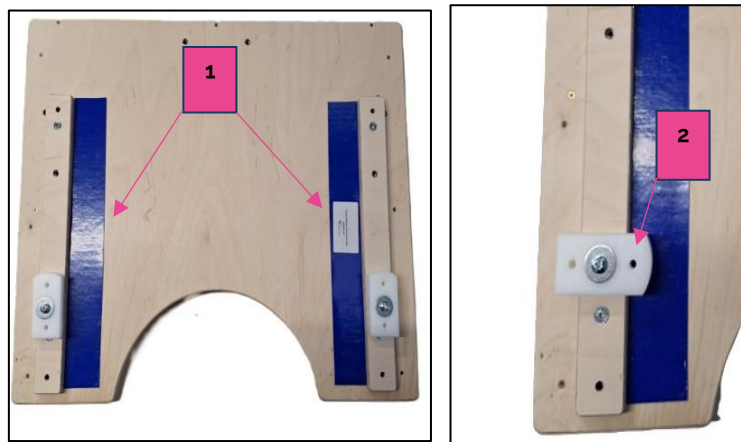

Fig. 3.1.1-1
3. Align the blue strip of the tray with the armrests and carefully slide the tray onto the armrests (see Fig. 3.1.1-1 Ref 1)
5. Locate the turning clips on the underside of the tray and turn the clips to lock the tray into place (see Fig. 3.1.1-1 Ref 2).
3. To reverse the footboard, remove the four screws (see Figure 3.1.1-1), rotate the entire board.